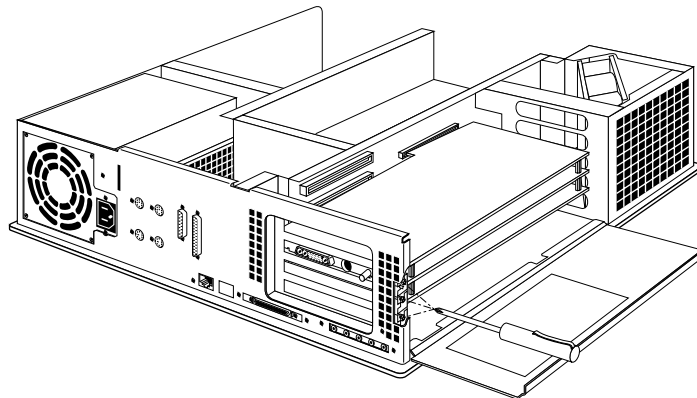

Figure 3-6 Removing the graphics board set screws
5. Remove the screws (one, two, or three, depending on the number of boards in the graphics board set) that attach the graphics back panel to the chassis, as shown in Figure 3-6.